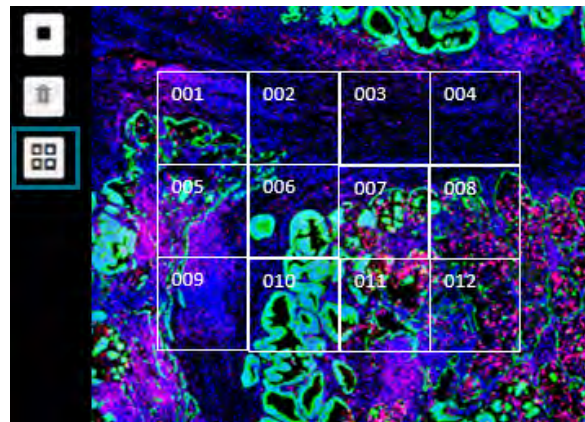

Figure 36: Grid FOV Placement
1. Select the **Grid FOV Placement Tool** from the FOV Selection Workspace (see Figure 36).
2. Click in the **center of the top left FOV of the grid** being placed (center of 001 (see Figure 36)).